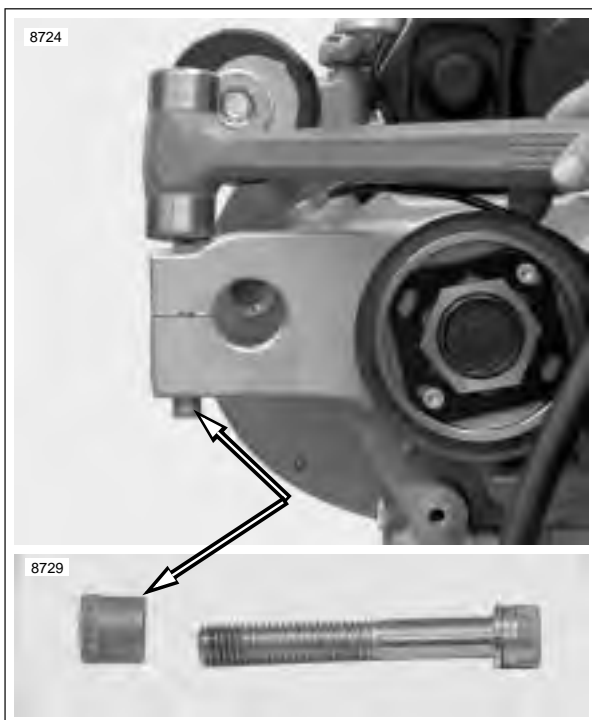

Figure 3-27. Removing Threaded Insert
- c. See Figure 3-27. Swingarm pivot shaft pinch bolt threaded insert.